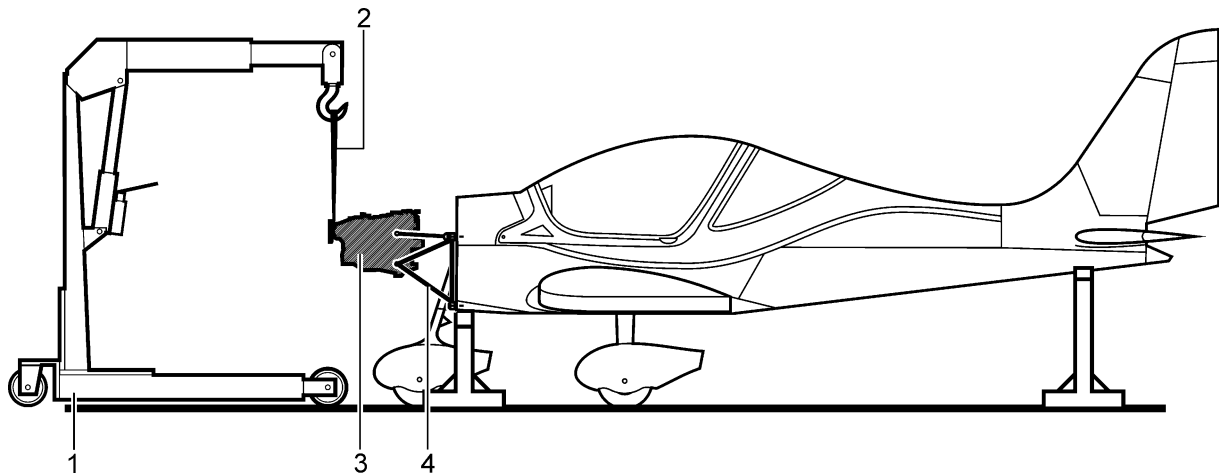

Fig. 1 – Securing the engine against falling
- 1.3.1.8 Hang the engine (3, Fig. 1) on the workshop crane (1) using the suspension strap (2). The engine (3) is now secured against falling.
- 1.3.1.20 Release the engine from the mounting crane (Fig. 1).
Legend to Fig. 1